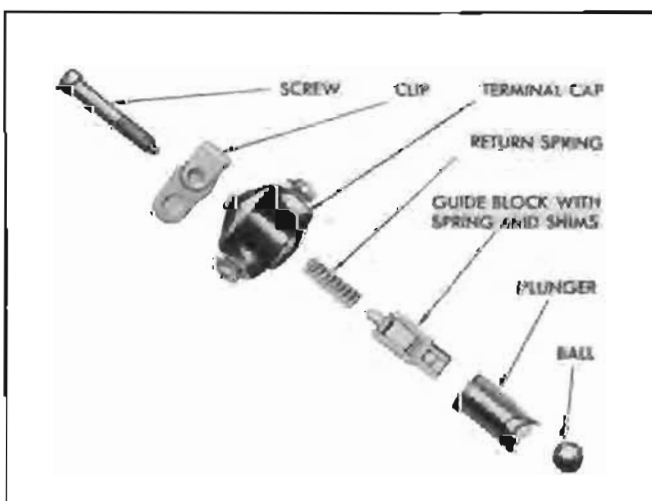

Figure 3-36—Vacuum Switch Parts
17. Hold down on vacuum switch terminal cap while removing hold-down clip. Remove terminal cap and switch return spring, then lift out switch guide block with contact spring and shims. Do not lose timing shims and the spring washer on contact spring. Turn body flange over to allow plunger and ball to drop into hand. See figure 3-36.